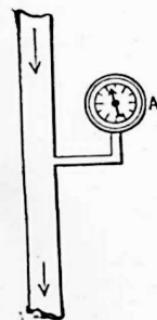

FIG. 10. The pressure gauge A indicates the pressure of the water in the pipe.
9. Measurement of Pressure. Voltmeter. When we wish to measure the water pressure in a pipe, we tap a pressure gauge on to the pipe line, as (A) in Fig. 10. Note that no current flows through the gauge. It is merely tapped on to the pipe at the point at which we wish to measure the pressure, so that the pressure can get at it and cause it to indicate. The pipe, and current flowing through it, are not disturbed. Similarly, when we wish to measure the electric pressure causing an electric current to flow through, say a lamp, we do not disturb the circuit nor the current flowing through it. We just tap the terminals